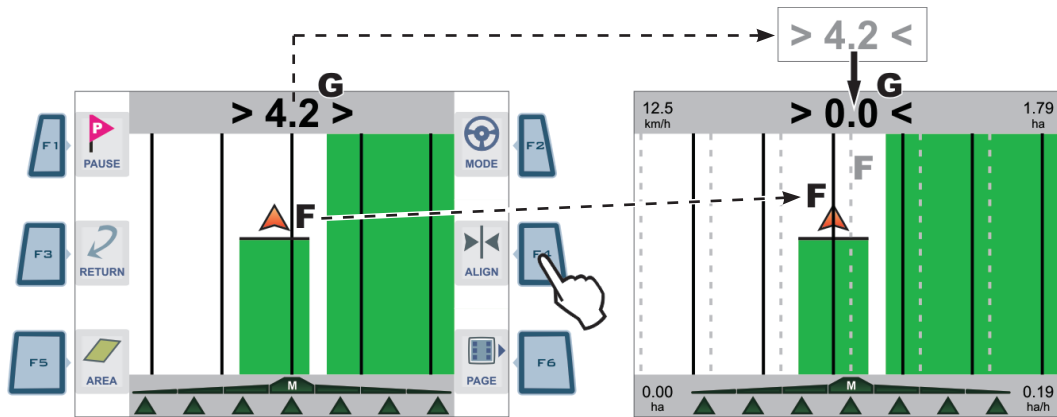

Fig. 120
- The "old" reference track **F** (Fig. 120) shifts and aligns to tractor centre: all other reference tracks shift accordingly.